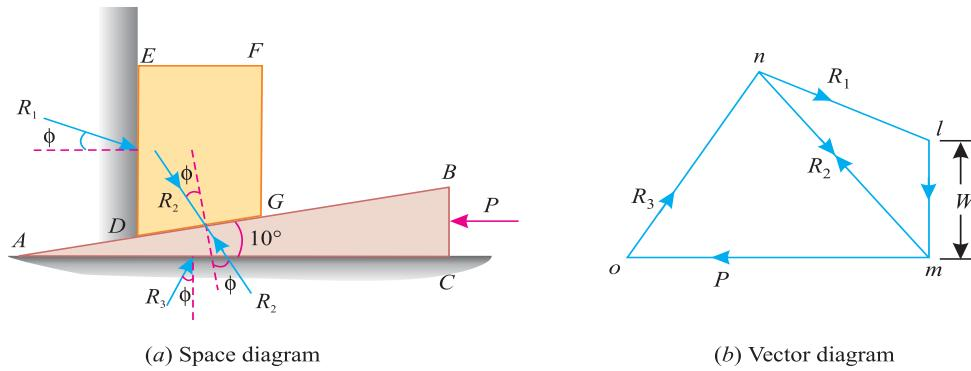

Fig. 9.12.
- First of all, draw the space diagram for the body DEFG and the wedge ABC as shown in Fig. 9.12 (a). Now draw the reactions  $R_1$ ,  $R_2$  and  $R_3$  at angle  $\phi$  with normal to the faces DE, AB and AC respectively (such that  $\tan \phi = \mu$ ).
Now, in order to draw the vector diagram for the above mentioned three forces, take some suitable point  $l$  and draw a vertical line  $lm$  parallel to the line of action of the weight ( $W$ ) and cut off  $lm$  equal to the weight of the body to some suitable scale. Through  $l$  draw a line parallel to the reaction  $R_1$ . Similarly, through  $m$  draw a line parallel to the reaction  $R_2$ , meeting the first line at  $n$  as shown in Fig. 9.12 (b).
Now, in order to draw the vector diagram for the above mentioned three forces, through  $m$  draw a horizontal line parallel to the force ( $P$ ) acting on the wedge. Similarly, through  $n$  draw a line parallel to the reaction  $R_3$  meeting the first line at  $O$  as shown in Fig. 9.12 (b).